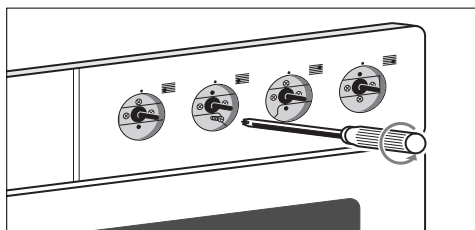

fig. 4
- Unscrew the assembly plate behind the control panel. Only unscrew the top and bottom screws (fitted every other one) (see fig. 4 and 5).